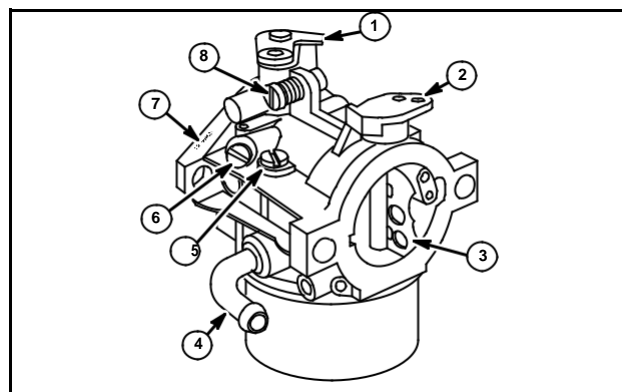
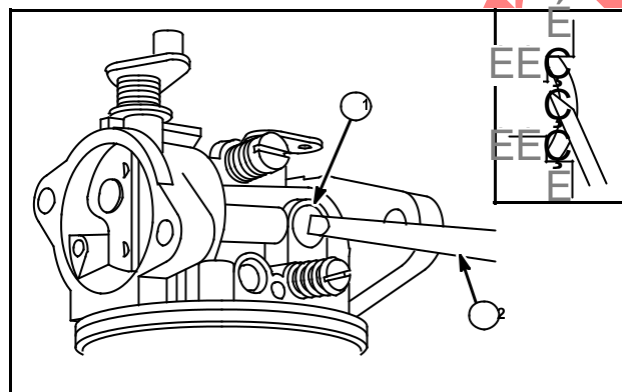

Fig. 98
Fig. 99
LMT carburetors have a Fixed Orifice Main Jet with Adjustable Idle Jet, Fig. 98. The different carburetors are identified as LMT 1 and up or by six (6) digit number. The letters LMT are cast into the body of the carburetor while the numbers are stamped into carburetor mounting flange next to idle mixture screw.
3. Remove float hinge pin, float, and inlet valve (4).
4. Remove idle mixture screw with spring (6) and idle speed screw with spring (8). (Remove mixture screw limiter cap, if so equipped.) Fig. 98. Pilot jet (5), I.D. number (7), Fig. 98.
5. Rotate throttle shaft (1) to closed position and re-move throttle plate screw(s).
8. With a modified 5/32 inch (9.39 mm) pin punch (2), remove welch plug(s) (1) from carburetor body, Fig. 99.
- a. Plastic shaft (2) with snap in choke plate (3)
- b. Metal shaft (2) with screw mounted choke plate (3), Fig. 98.